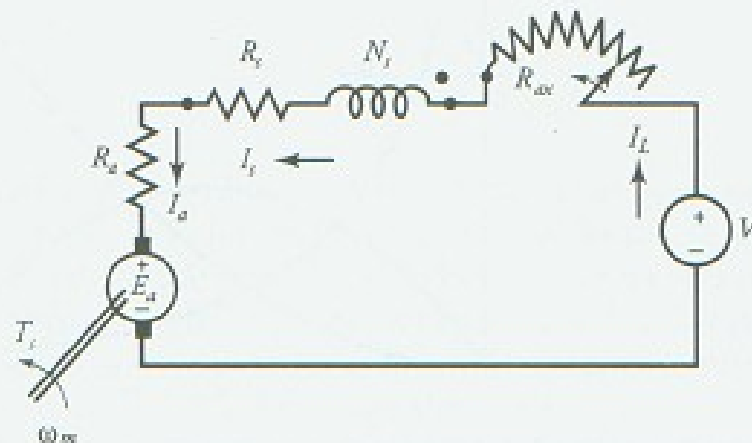

Figure 6.4 An equivalent circuit of a series motor with a variable starting resistance.
- In a series motor the field winding is connected in series with the armature circuit as shown in Figure 6.4.